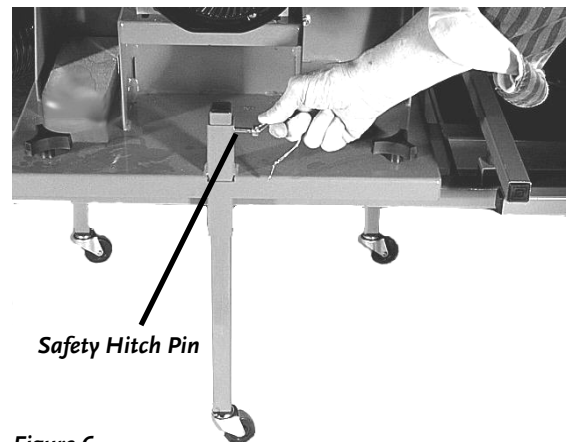

Figure 6
14. Holding the tongue level, remove the Safety Hitch Pin from the nearest Support Leg w/Caster in the front of the trailer frame and allow the leg to drop. Replace the Safety Hitch Pin in the hole provided to secure the leg in the down position (**Figure 6**).
15. The remaining two (2) legs are installed upside down for packaging. You need to remove them and reinstall them from the bottom, making sure that the holes in the legs are on the same sides as the holes in the Engine Plate tubes. Replace the Safety Hitch Pins in the holes provided to secure the legs in the down position (**Figure 6**).